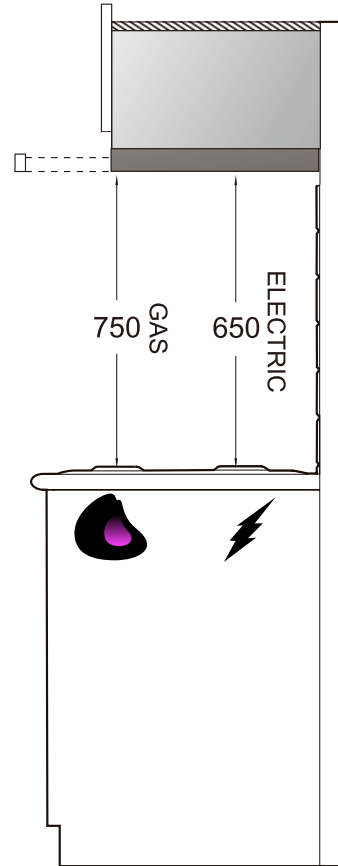

Fig.7
1. The hood is to be mounted on the mounting board of the cabinet. When installed, the hood must be not less than 65cm above electric burners or 75cm above gas or mixed-fuel burners. (Fig. 7)